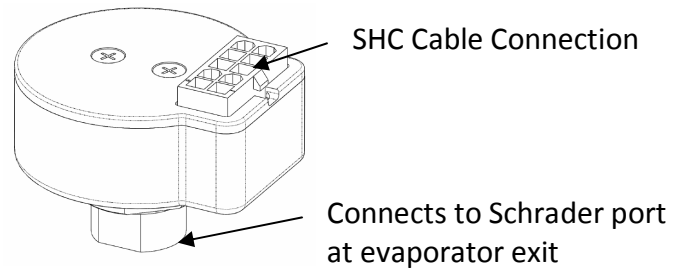
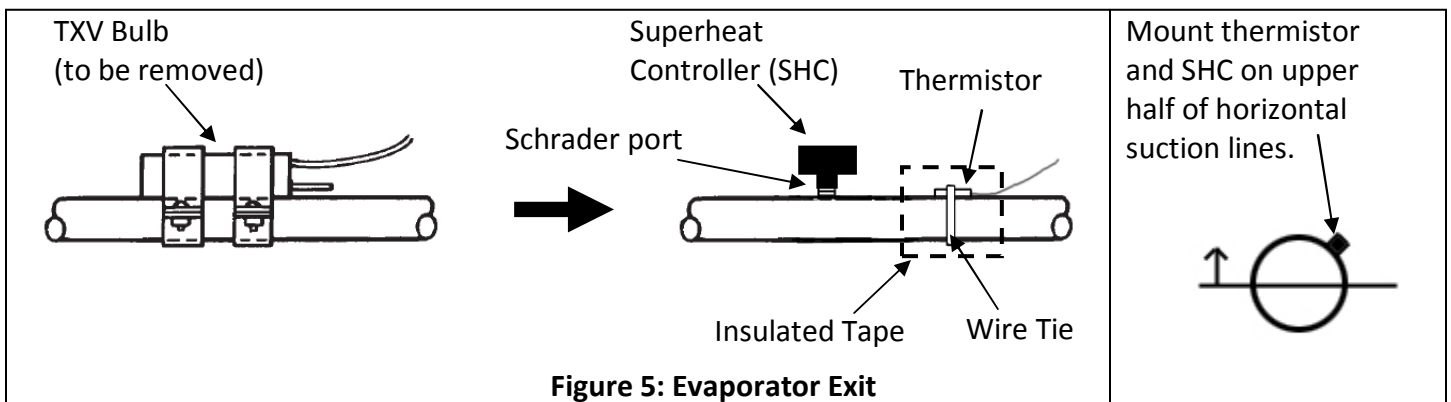

Figure 2: Superheat Controller
Figure 5: Evaporator Exit
2. Install the SHC on the Schrader port. It is recommended the SHC be installed to the side or at an angle to allow condensation to fall away from the device. You may use the SHC housing for the first few turns on the Schrader, but **DO NOT TIGHTEN THE SHC USING THE HOUSING**. As soon as there is resistance, use a 9/16" wrench on the hex nut at the bottom of the SHC (See Figure 2) to complete the installation.
3. Attach the SHC Cable to the SHC and install the thermistor. (Figures 2, 4 & 5). The SHC cable includes a large Molex connector that fits into the SHC, and a thermistor, which should be wire tied to the evaporator suction line and wrapped with insulated tape (See Figure 5). Attach the thermistor to a flat length of the suction line as close as possible to the evaporator exit.